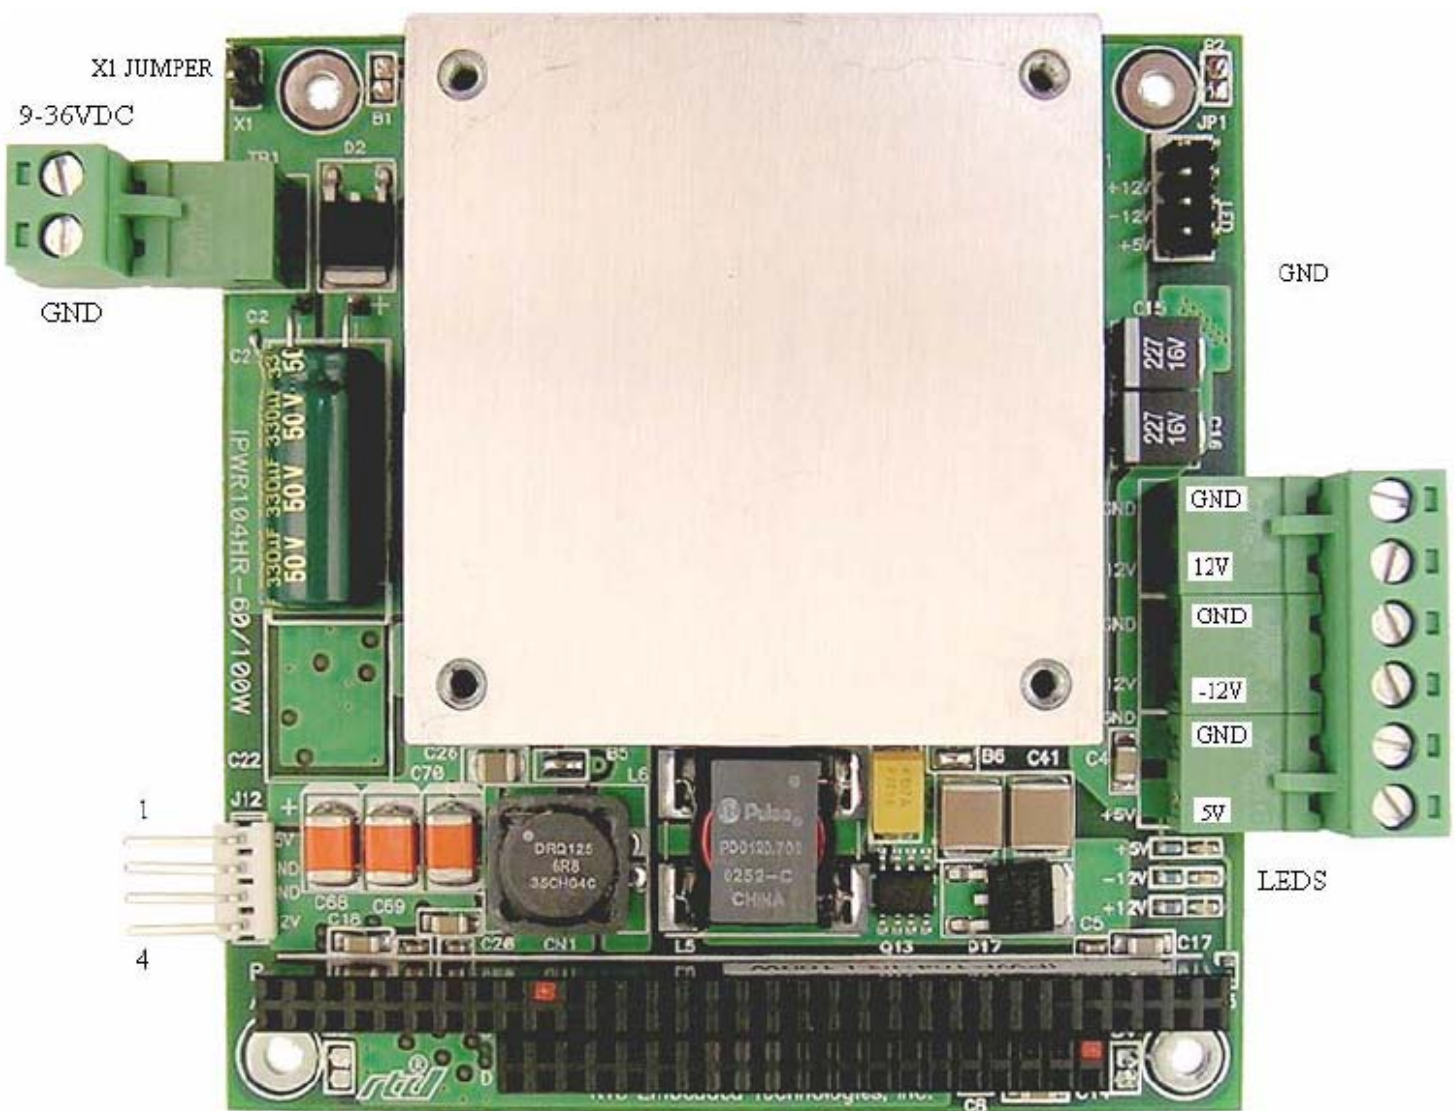

Fig. 1-3 IPWR104HR power supply power connections
- Fig. 1-3: IPWR104HR power supply power connections**